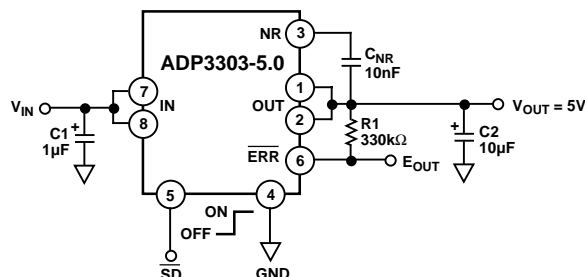

Figure 21. Noise Reduction Circuit
A noise reduction capacitor ( $C_{\text{NR}}$ ) can be used to further reduce the noise by 6 dB–10 dB (Figure 21). Low leakage capacitors in the 10 nF–100 nF range provide the best performance. Since the noise reduction pin (NR) is internally connected to a high impedance node, any connection to this node should be carefully done to avoid noise pickup from external sources. The pad connected to this pin should be as small as possible. Long PC board traces are not recommended.